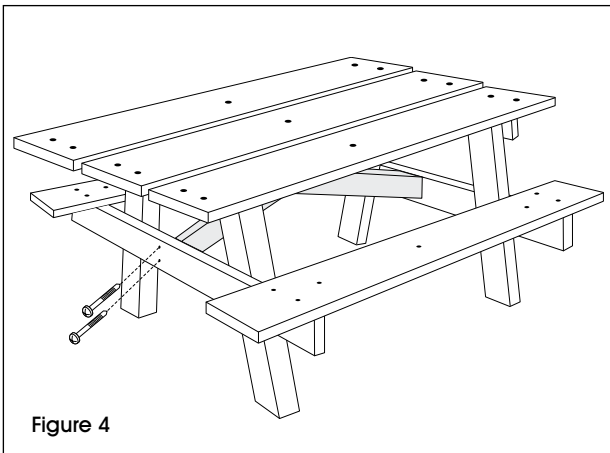

Figure 4
8. Loosely fasten the support slightly off center to the tabletop with two 3" deck screws. Repeat the steps with the other long tabletop support and fasten it opposite of the first tabletop support. (See Figure 4)